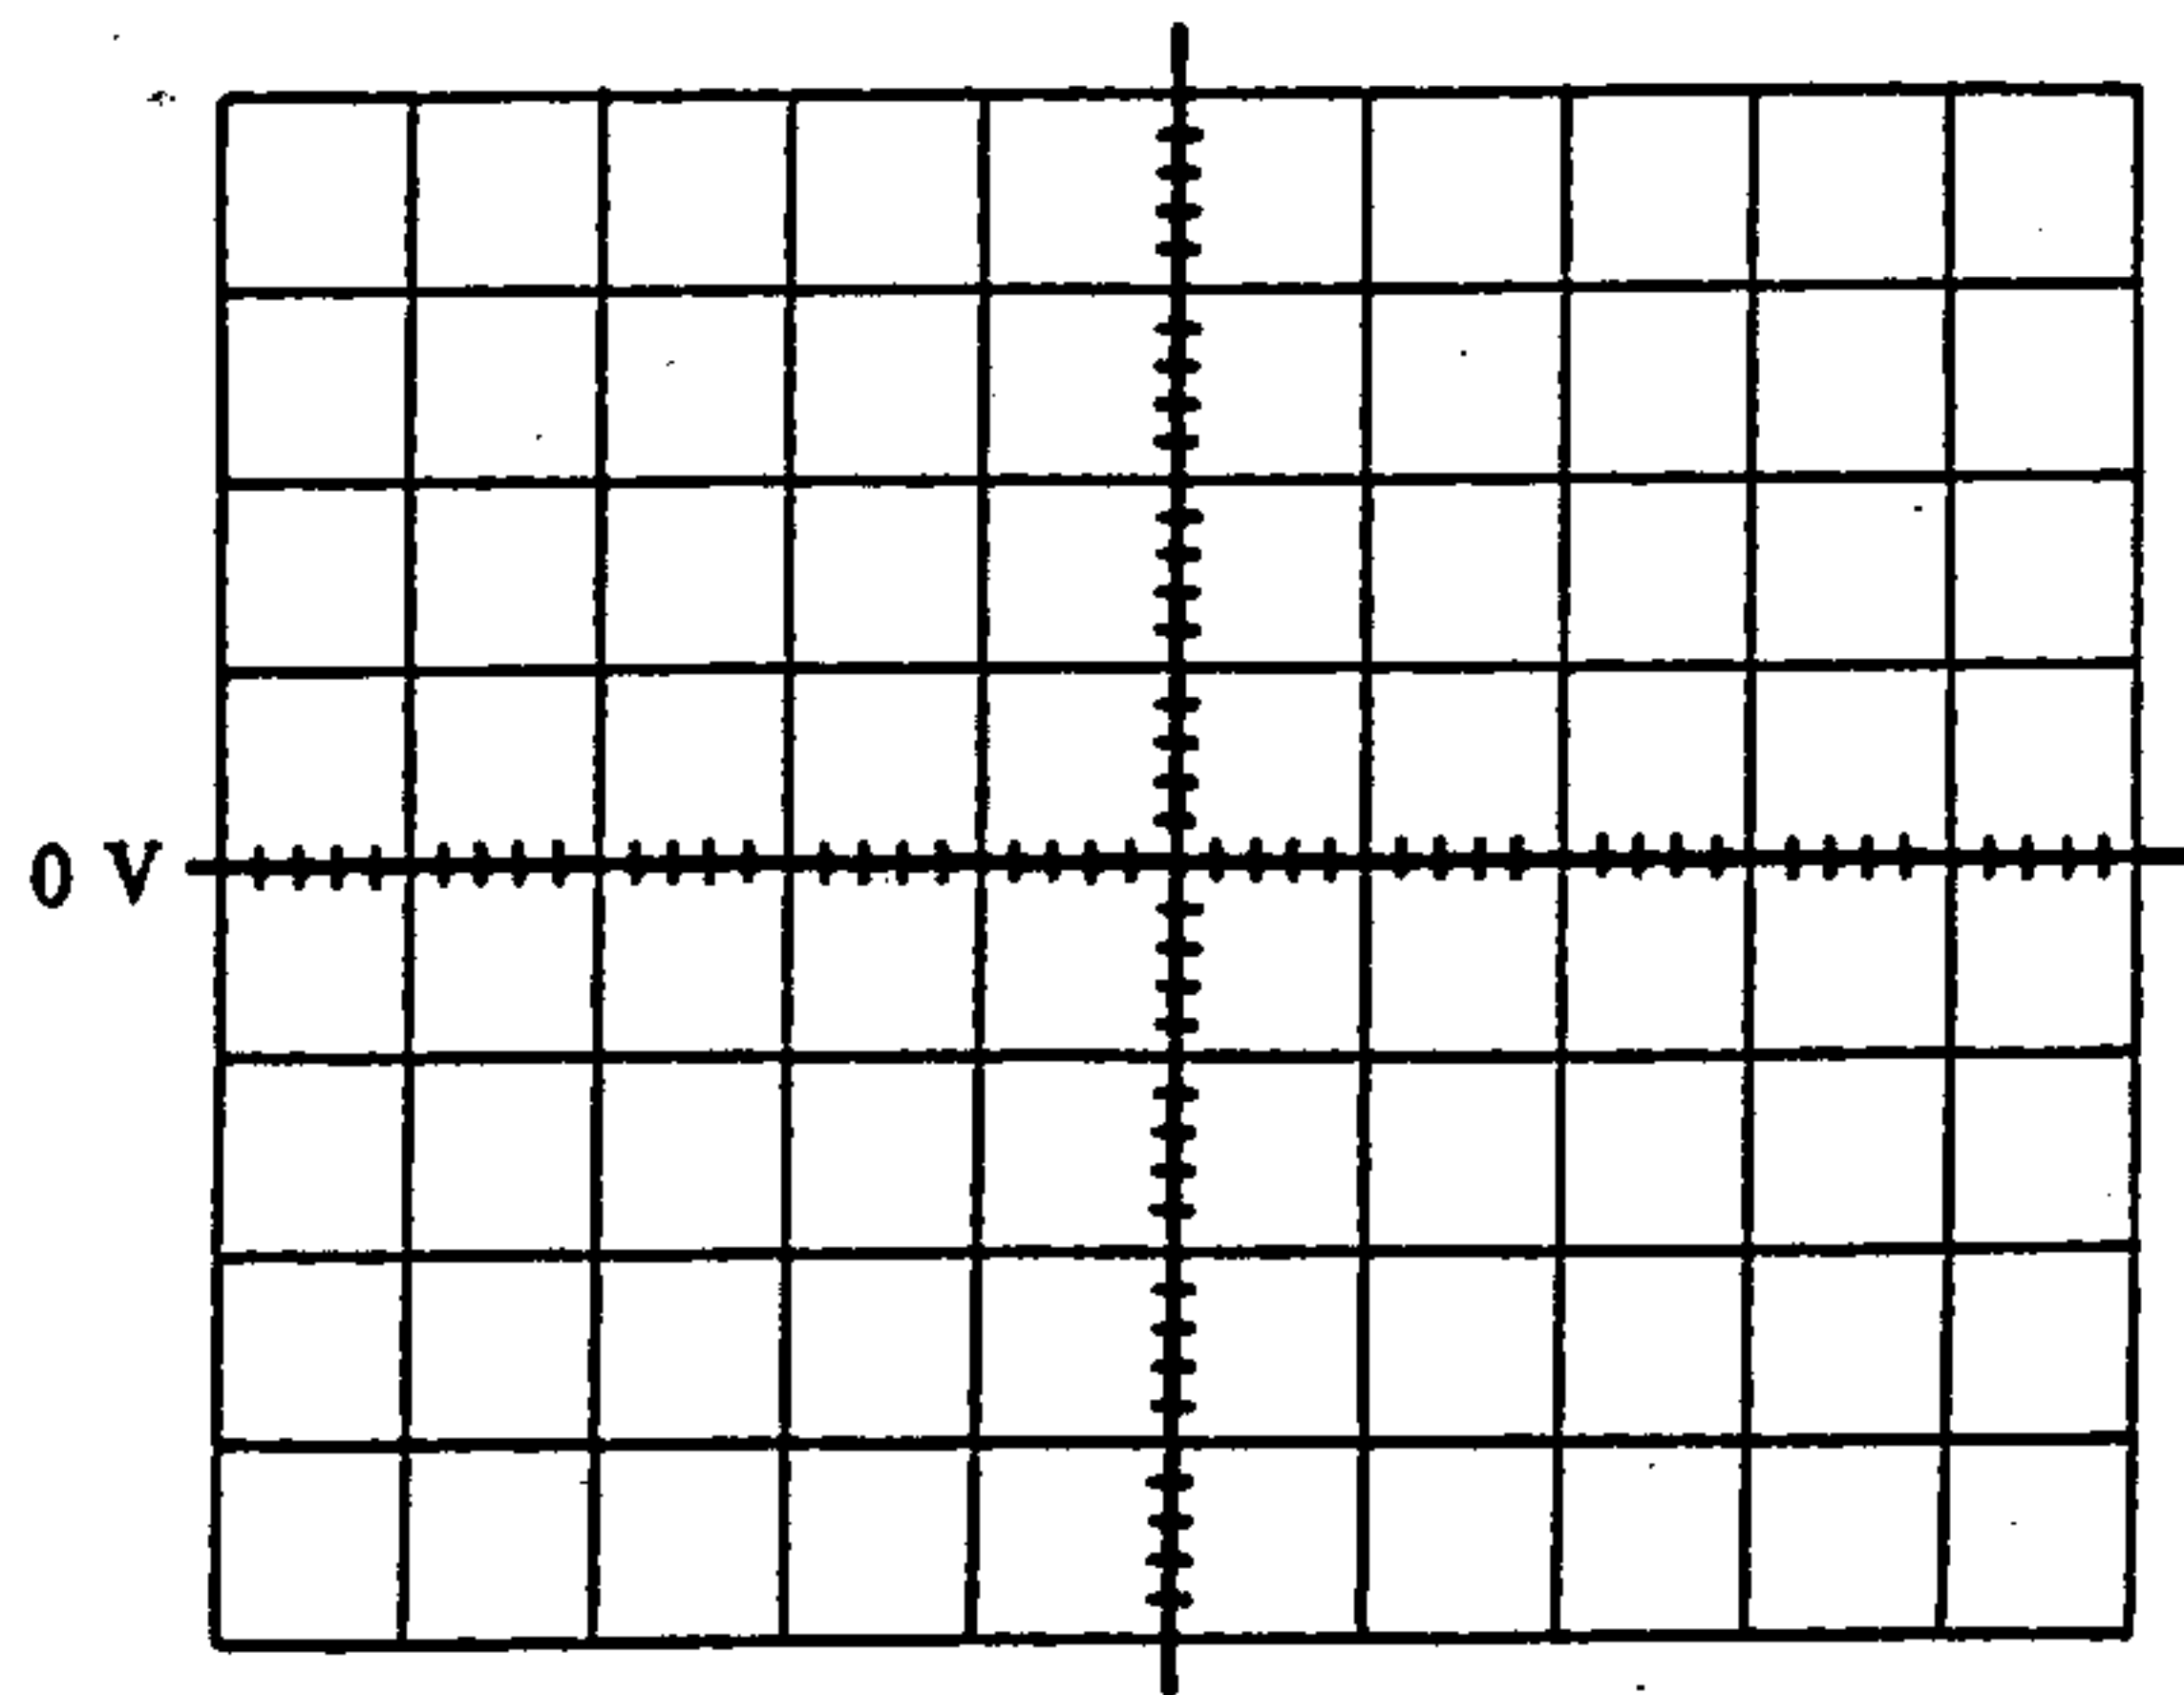

Figure 6-13
- g. Set the input of Fig. 6.1 with  $R = 1 \text{ k}\Omega$  and record the resulting waveform on Fig. 6.13. Be sure to preset the  $V_o = 0 \text{ V}$  line in the center of the screen using the GND position of the coupling switch and be sure to use the DC position to view the waveform. Insert the chosen vertical and horizontal sensitivities below:
**h.** Comment on the resulting waveform of Fig. 6.13. Is the distortion as you expected? Are you surprised by the positive and negative peaks? Why?
**j.** How does the  $5\tau$  calculated in Part 5(i) compare to  $T/2$  for the applied signal? What effect will the lower value of  $R$  have on the waveform of Fig. 6.13?